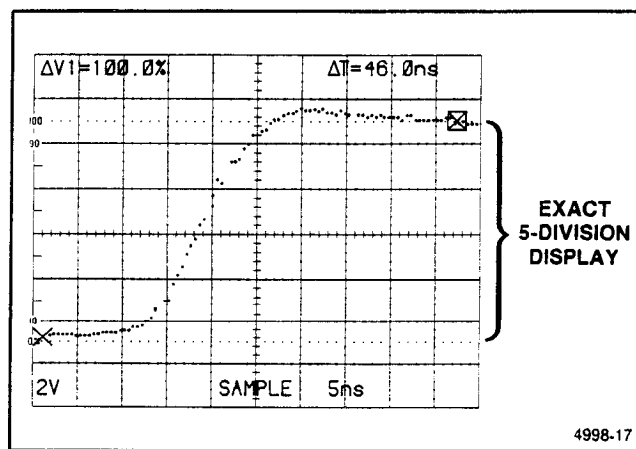

Figure 6-15. Rise-time setup, five-division display.
4. Set the SEC/DIV switch for a single-event display, with the rise time spread horizontally as much as possible within the viewing area. The waveform's maximum and minimum levels must still be visible (see Figure 6-15).